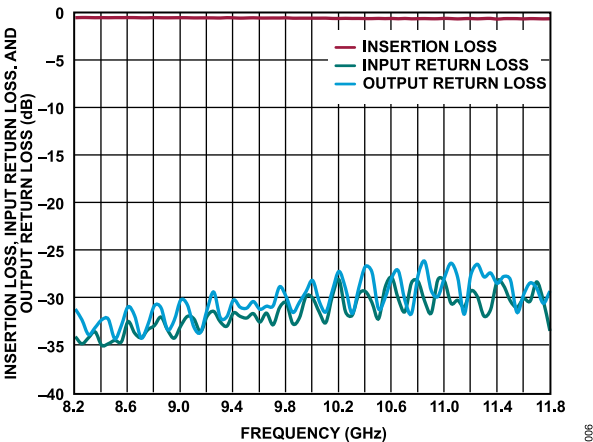

Figure 6. Insertion Loss, Input Return Loss, and Output Return Loss vs. Frequency of the Through Calibration Path
To calibrate board trace losses, a through calibration path is provided between the J1 and J2 connectors. J1 and J2 must be populated with 2.92 mm, (K) RF connectors to use the through calibration path. Figure 6 shows the insertion loss, input return loss, and output return loss of the through calibration path. Table 2 lists the insertion loss of the through path vs. frequency.